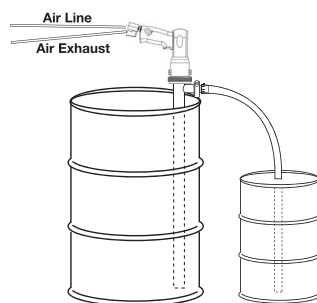

Figure 12
3. It is recommended to attach a suitable hose or pipe to the pump discharge (see Figure 12).